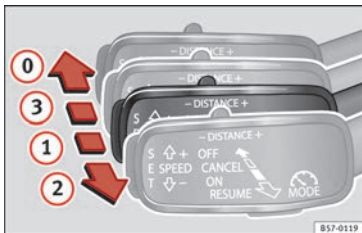

Fig. 178 On the left of the steering column: third lever for operating the Adaptive Cruise Control.
- Pull the lever to position **1** **» Fig. 178.** **ACC standby** will be shown on the instrument panel display.